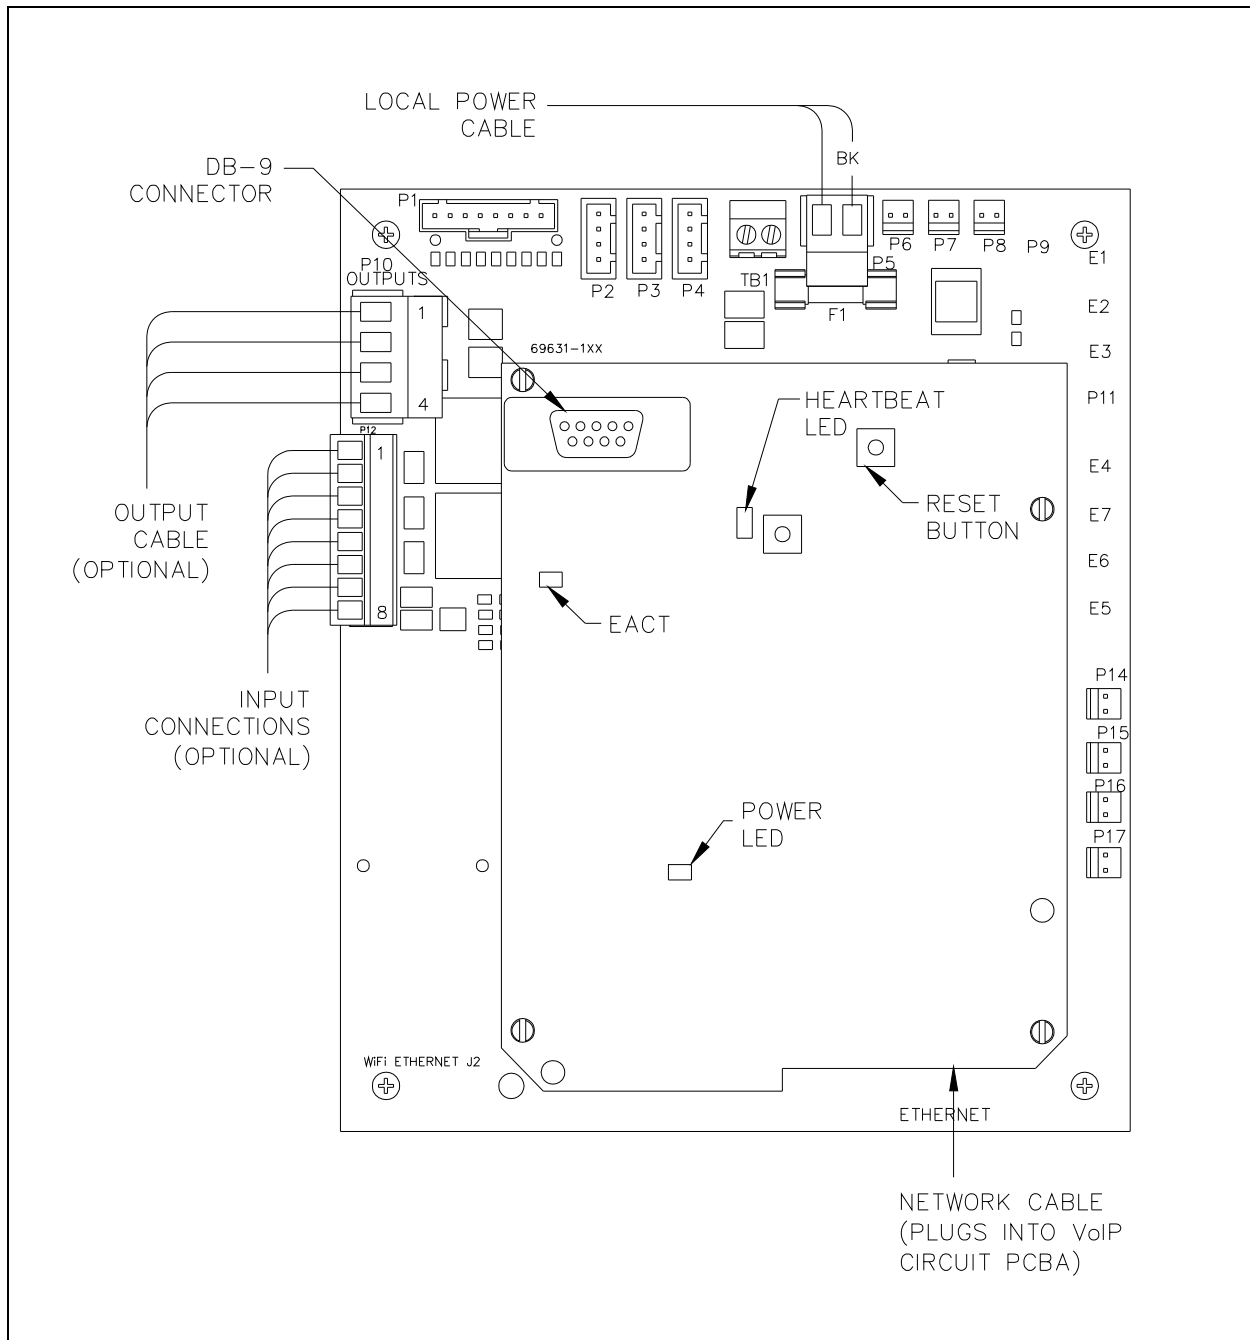
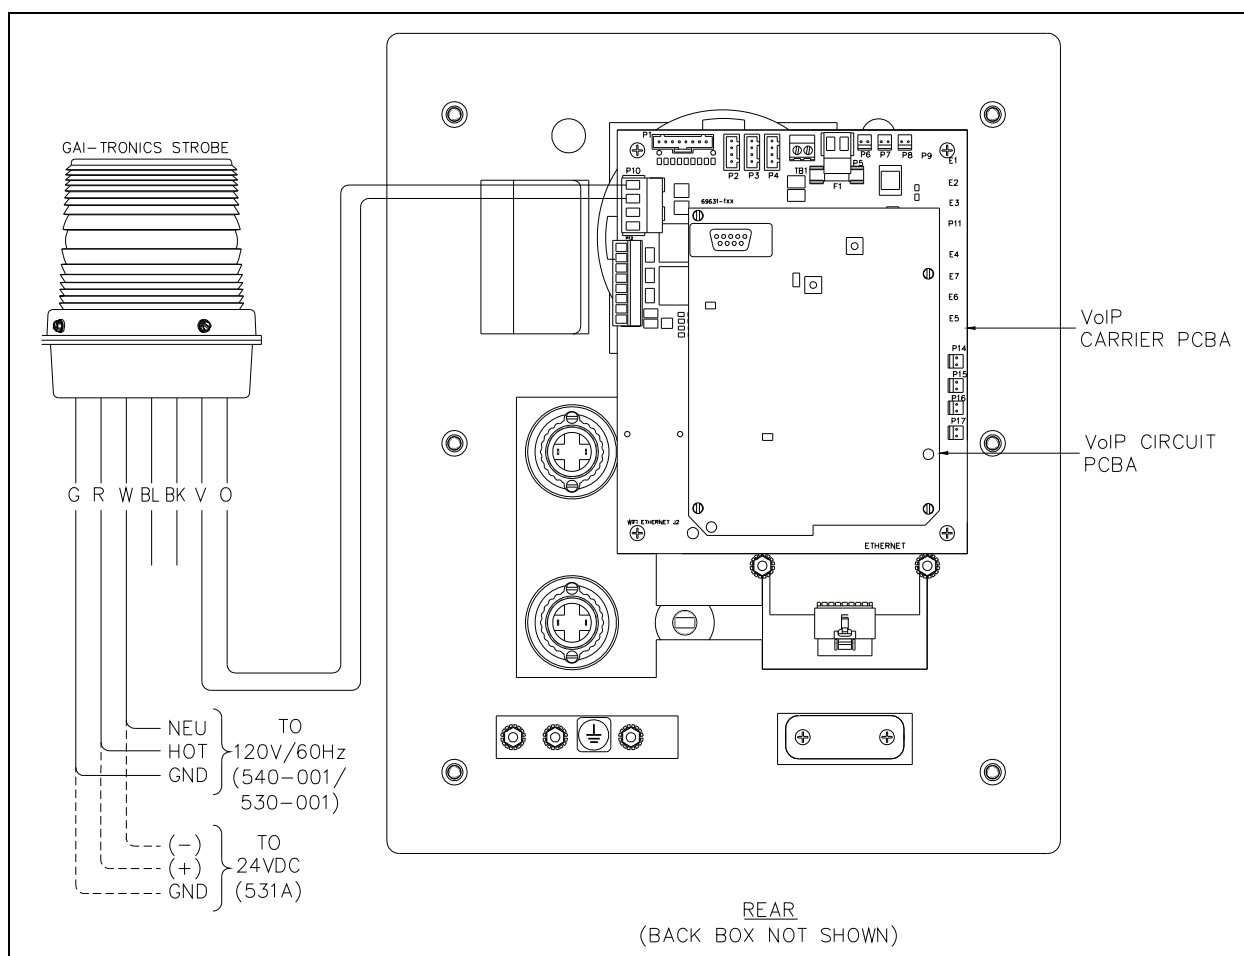

Figure 22. VoIP Telephone PCB Assembly
Figure 23. GAI-Tronics Models 540-001, 530-001, 531A Strobe Connection Details
4. Connect any desired peripheral I/O devices, referring to Figure 22, Figure 23, and the instructions on page 20 for connection information.
After all the field wires are pulled through the rear enclosure, install all connections as indicated below. Refer to Figure 22 for wiring details. Refer to Table 5 on page 20 for the recommended conductor sizes.
When PoE is not available, a separate, isolated 24 to 48 V dc power supply is required. See the “Replacement and Optional Parts” chart on page 28 for the recommended optional plug-in power supply (required only if PoE is not available.) A removable terminal block P5 has been provided for connection of local power to the telephone. Connect the positive conductor to the (+) terminal and the negative conductor to the (–) terminal of P5. See Figure 22 for wiring and location of P5.
Four auxiliary inputs have been provided for customer use. Terminations for these inputs are located on terminal block P12. See Figure 22 for the location of the connector.
Two outputs have been provided for customer use. Terminations for these outputs are provided on connector P10. See Figure 22 for the location of the connector.
The function of each input is configurable. Inputs can be configured for one of the following modes: On, Off, or On/Off. The signals can also be inverted between active high (INVERT) or active low (NORMAL). Activation of these inputs can be configured to update a SYSLOG or generate an email. Please refer to Figure 22 on page 19 of this manual and the “Logic Settings” section of GTC Pub. 42004-396, “VoIP Telephone Configuration Guide” for programming instructions for these inputs.
The function of each output is configurable. Outputs can be configured for one of the following modes: On, Off, Pulse, Mute, Ring, Call, Connect, Hook, In Use, Ring Cadence, Ring Out, Page, Registered, or Emergency. In some modes, the duration of the activation or on/off times can also be set. Please refer to Figure 22 on page 19 of this manual and the “Logic Settings” section of GTC Pub. 42004-396, “VoIP Telephone Configuration Guide” for programming instructions for these outputs.
The Power LED located on the VoIP PCBA illuminates when power is applied to the telephone. Refer to Figure 22 on page 19 for location.
The Heartbeat LED located on the VoIP PCBA will flash once communication over the LAN is established. Refer to Figure 22 on page 19 for location.
The EACT LED located on the VoIP PCBA will turn ON when VoIP PCBA is connected to an Ethernet device and flash when data is being transmitted. Refer to Figure 22 on page 19 for location.
In most applications, an output is used to operate a GAI-Tronics Model 540-001, 531A, or 530-001 Strobe (sold separately). For connection details, please refer to Figure 23 or the appropriate installation instructions included with each strobe.